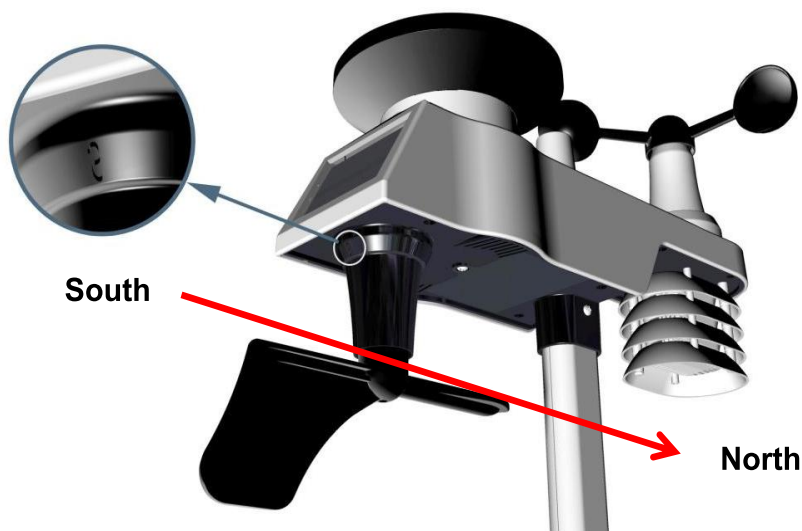

Figure 13
Step 1: There is a “S” indicator on the wind vane that indicates South, as shown in Figure 13. Check the wind directions with compass and Align this “S” marker in the direction of South.